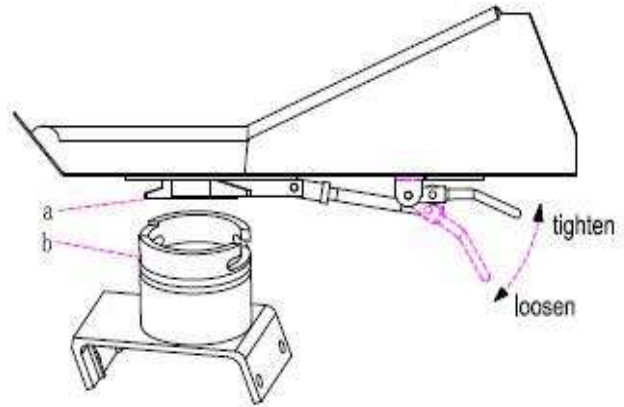

Fig 3-3-2b
Type 2(Fig 3-3-2b): loosen the locking handle to the position of “loosen”, and insert section “a” of the feeder pan to section “b” of the vibrator slantingly. Level the feeder pan and tighten the locking handle.
2. Push the bucket from position 2 to position 1 then the bucket can be removed, as shown in Fig 3-3-2b.